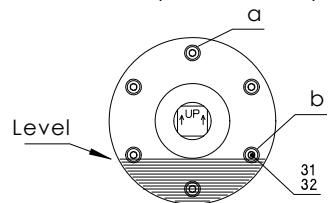

Fig. 3a
5. Refill the drummotor with the recommended type and quantity of oil. The oil level should be just below screw **b** (refer to Fig. 3a).